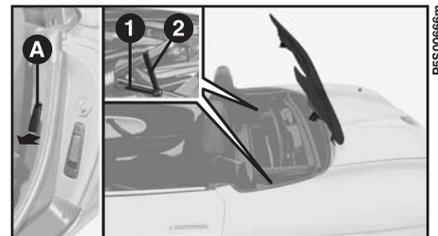

fig. 58
2) Make sure that the boot is closed properly, then lift lever **A**-**fig. 58** (the lever nearest the seat) to release the hood housing cover. A beep, however, will inform you if the boot has not been closed properly.
4) Turn the hood fastener from position 2-fig. 58 to position 1 so that it rests in the appropriate recess. Do the same operation on both sides. Working from outside the car, lift hood with one hand until you can grip the rear part of the hood with the other hand. Keep the hood folded, and pull it right to the front of the car so you can close the hood compartment cover, fig. 59. Make sure the catch on the cover has caught properly.